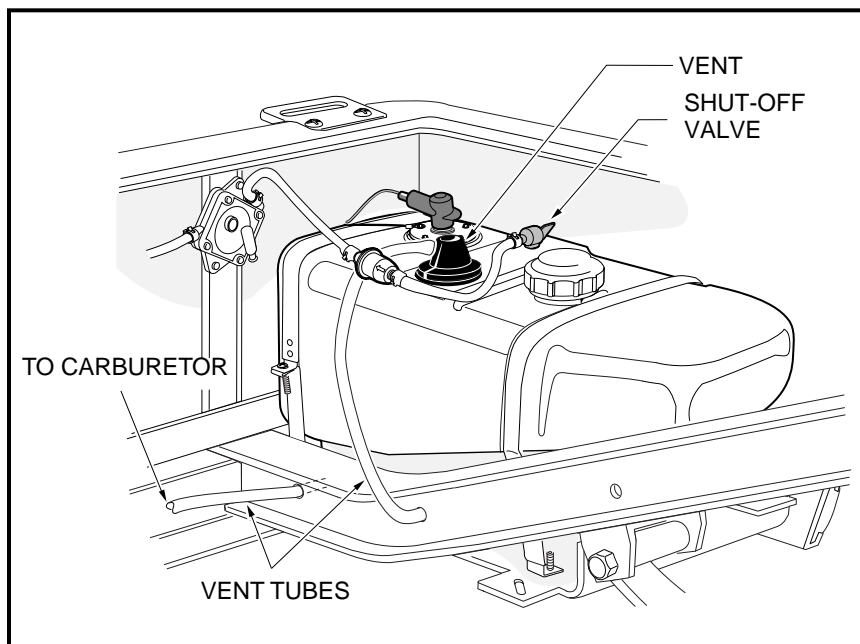
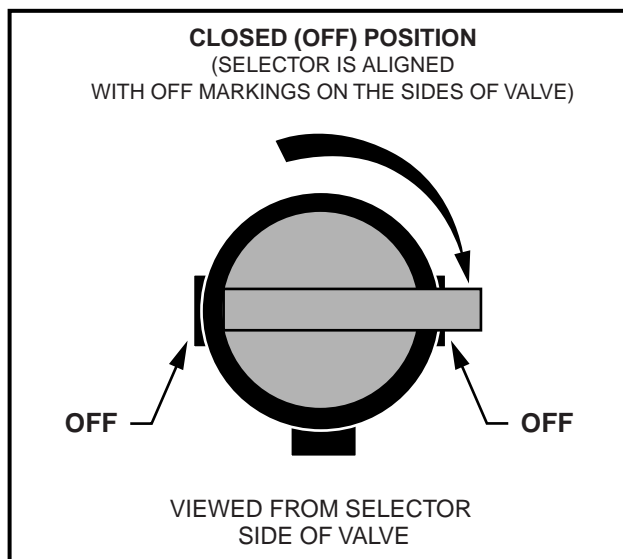

Figure 14-19 Fuel Tank
Figure 14-20 Closed Fuel Shut-off Valve
5. Turn fuel shut-off valve to the closed (OFF) position (**Figure 14-20, Page 14-27**) and run the engine until fuel remaining in the carburetor, fuel pump, and fuel lines is used up and the engine stalls.
The fuel shut-off valve is located on top of the fuel tank (**Figure 14-19, Page 14-25**). The fuel shut-off valve should always be turned to the closed (OFF) position during vehicle storage, towing or trailering (**Figure 14-20, Page 14-27**). Unless the engine will be run as part of a procedure, the fuel shut-off valve should also be closed (OFF) before performing maintenance or service procedures.